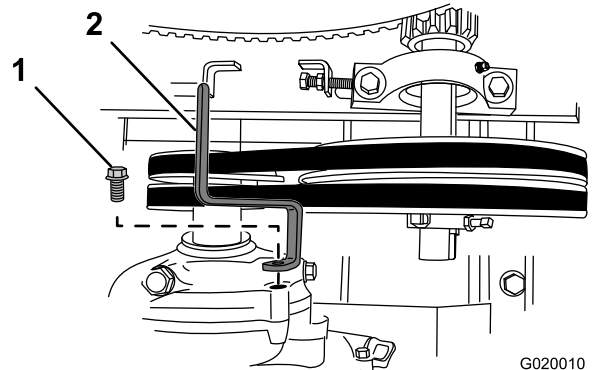

Figure 59
3. Remove the bolt that secures the belt guide to the engine, and remove the belt guide (Figure 59).
7. Loosely secure the belt guide to the engine (Figure 59) with the bolt that was removed in step 3 of Removing the Divider Plate \(page 29\).